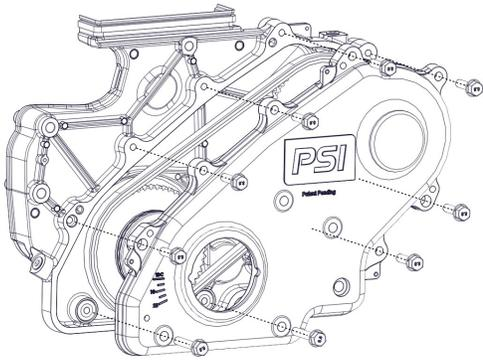

Figure 1
5. Remove the nine bolts from the front PTO housing (Figure 1).